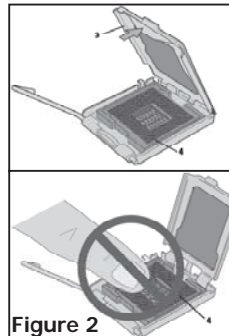

Figure 2
2. Lift the load plate. Do not touch the socket contacts (see Figure 2, 3 and 4).